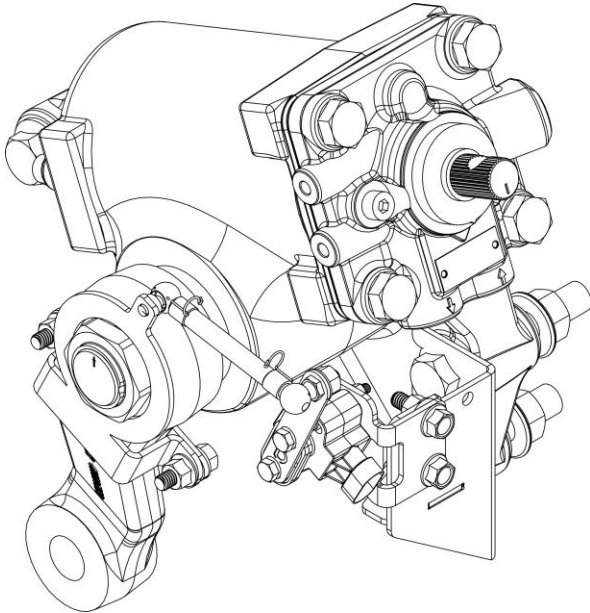

Figure 22: Assembled Steering Sensor
6. Snap the Linkage Assembly to the Pitman Arm Bracket and to the ball stud on the sensor arm. See Figure 22 for complete assembly.